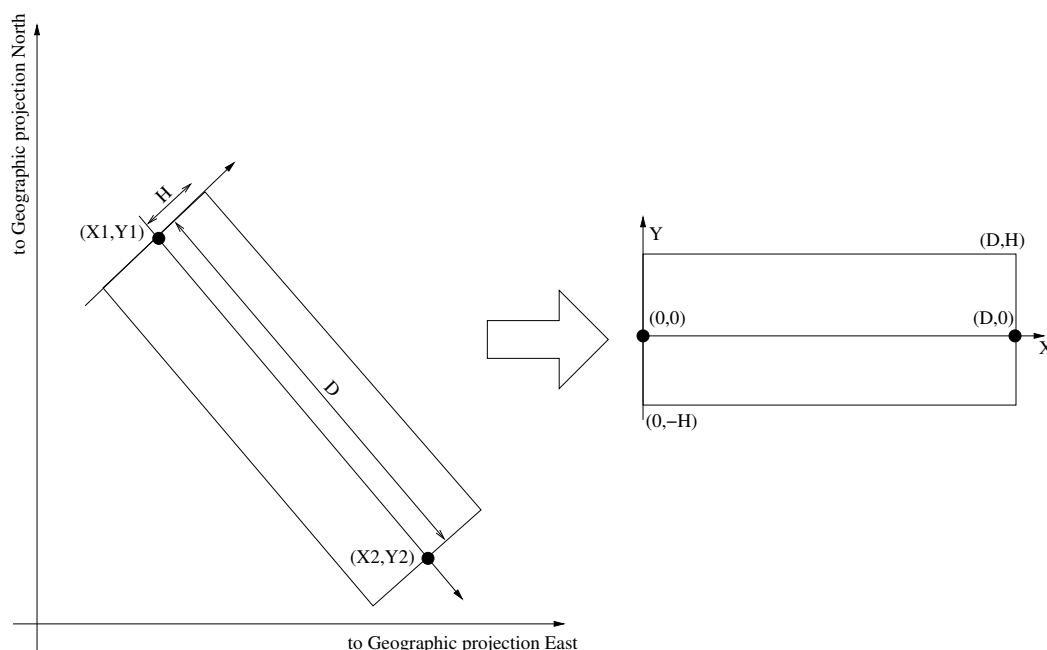

Figure 71: Rotation transformation in MagPick
- *Short UTM* now refers to the rotated coordinate system (right side of the figure 71). X increases when mouse pointer moves right, Y increases when mouse moves up. While converting from short UTM to longitude latitude the sequence is: 1) rotate system back 2) apply inverse UTM (or PROJ) transformation.
- *Full UTM* refers to the projected coordinate system on the left part of figure 71. Note that both full UTM numbers change when mouse cursor moves vertically or horizontally.